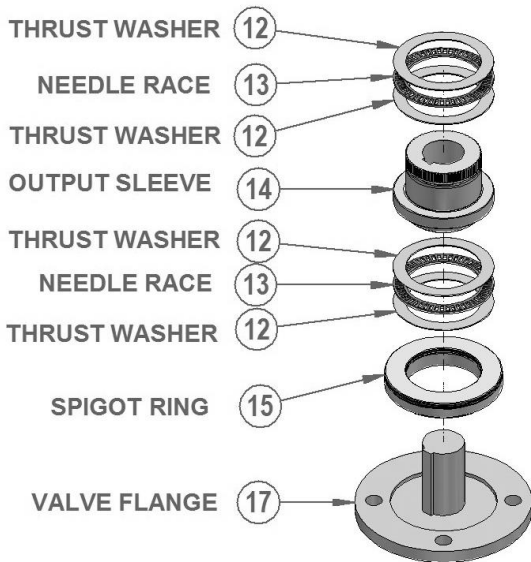
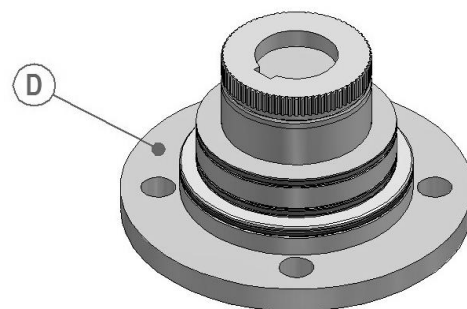

Figure 12 - Valve Stem Assembly
Figure 13 - Valve Stem (Assembled)
Check that the diameter of the male spigot supplied with the gearbox (Part 15 in Figure 12) matches the female spigot recess in the valve bonnet flange before assembling the gearbox onto the valve.
In addition to the points in Section 7.2.1, it is recommended that the machined output sleeve assembly is assembled onto the valve stem first and then the gearbox lowered onto the output sleeve assembly. See Figure 12 and Figure 13 for assembly details.
Fit the machined output sleeve (14), thrust bearings (12 & 13) and baseplate spigot ring (15) on the valve shaft as shown in the Figure 12. Bearings should be lubricated with the appropriate grease (see Table 5). Grease the bearings, output sleeve and valve stem. Note that the spigot ring has an internal and external seal that should also be greased.